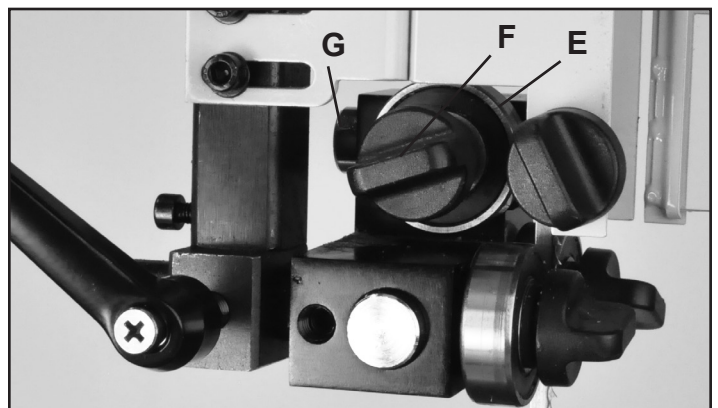

FIGURE 24
4. Adjust the rear bearing guide (Fig. 24, E) to be just clear of the back of the saw blade. Release the guide's Locking Handle (#50E, F) and move the rear guide towards the blade by pushing the end of the Rear Guide Shaft (#31E, G). Tighten the handle when done. Fig. 24.